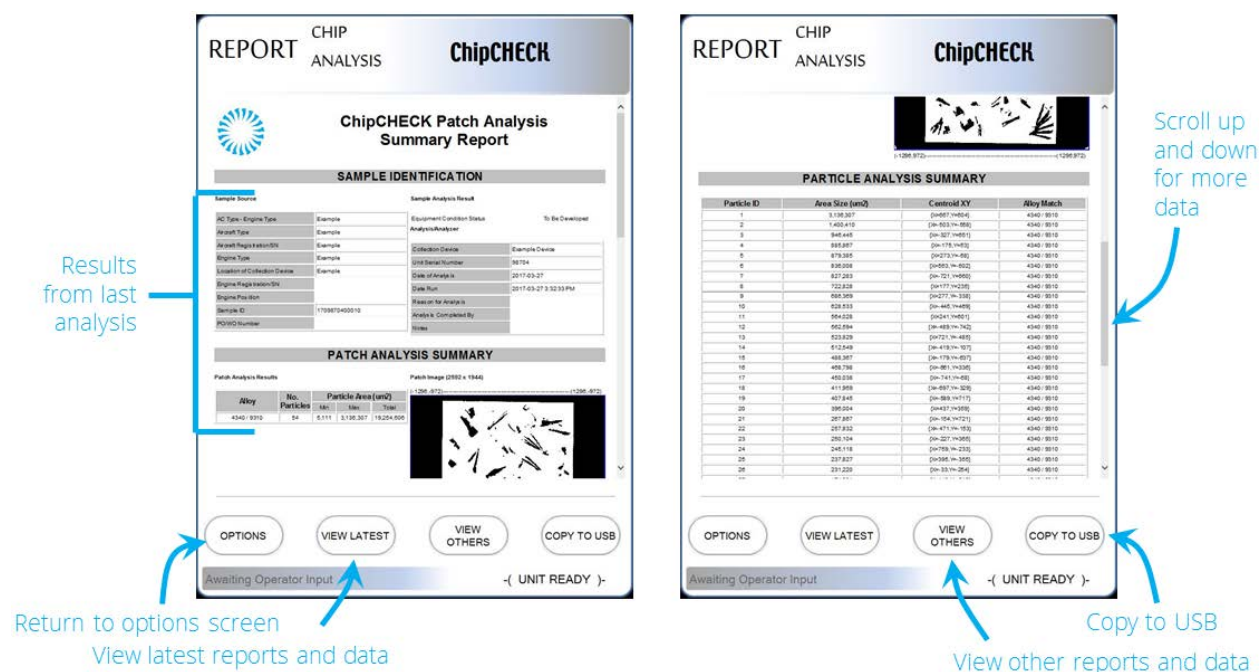

Figure 4-12: Reports Viewer Screen – Last Analysis
- If the reports viewer is accessed through the Option Screen, or if “View Others” is selected from the Report Screen (refer to Figure 4-12), then the reports from previously run analyses can be accessed.
The completion of the steps above will display the report and results from the desired analysis as shown in Figure 4-12 above. As described in Step 2, the User will then have the ability to “Copy to USB”, “View Other” or “View Latest” reports and data. Refer to Section 5.8 for information on copying files to an external flash drive via the “Copy to USB” button.